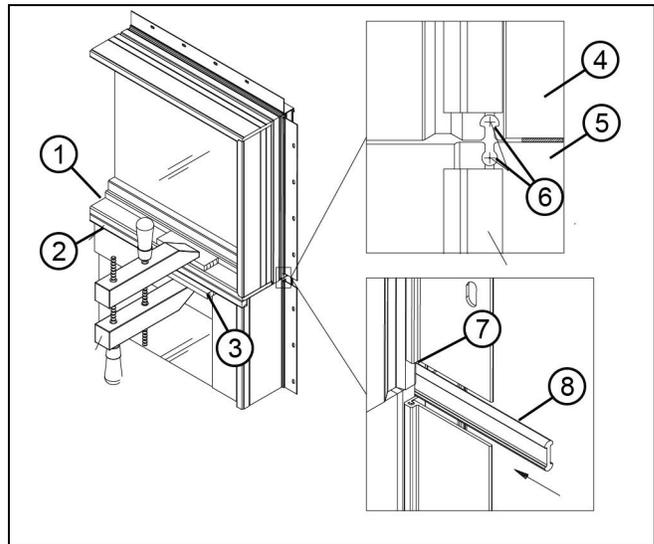

Figure 23
2. Position the rectangular transom on the head jamb of door. Check to be sure that both ends of the transom sill are flush with door head jamb. Apply clamps to interior side at each end of head jamb and sill to prevent movement. Use scrap pieces of wood to prevent marring of wood surface. Make sure that nailing fin/drip cap kerfs line up on both ends. See Figure 23. Drill the outer edges of mull kerf located at one side at head jamb of door and sill of transom with a 3/16" (5) drill bit as shown in Figure 23. This will allow easy application of mulling pin. Be sure to clean filings from the drilled area prior to mull pin installation.